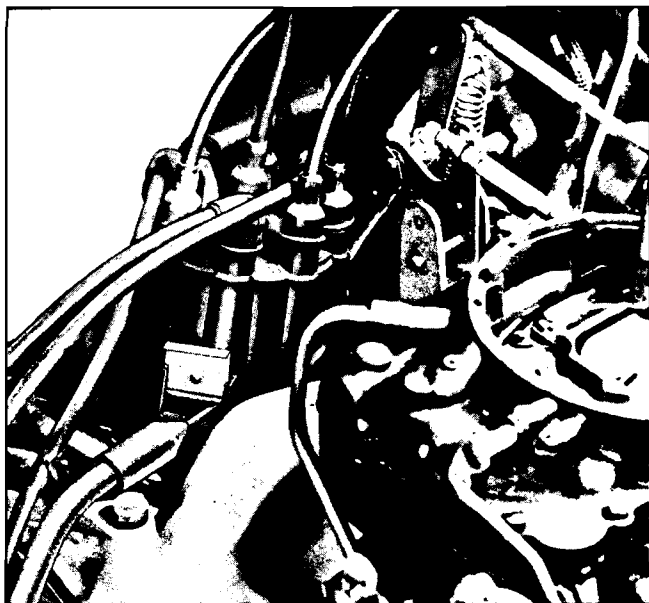

Fig. 6E-28 Adjusting Dwell Angle
1 cylinder (No. 1 piston at top of compression stroke) and timing mark on harmonic balancer is indexed with the proper mark on the lower timing belt cover (Fig. 6E-33).
3. Before installing distributor, index rotor with housing as noted when distributor was removed, Fig. 6E-32. This will simplify indexing the distributor shaft and gear with oil pump drive shaft and distributor drive gear. Distributor and rotor will be positioned properly when installed with No. 1 piston in firing position.